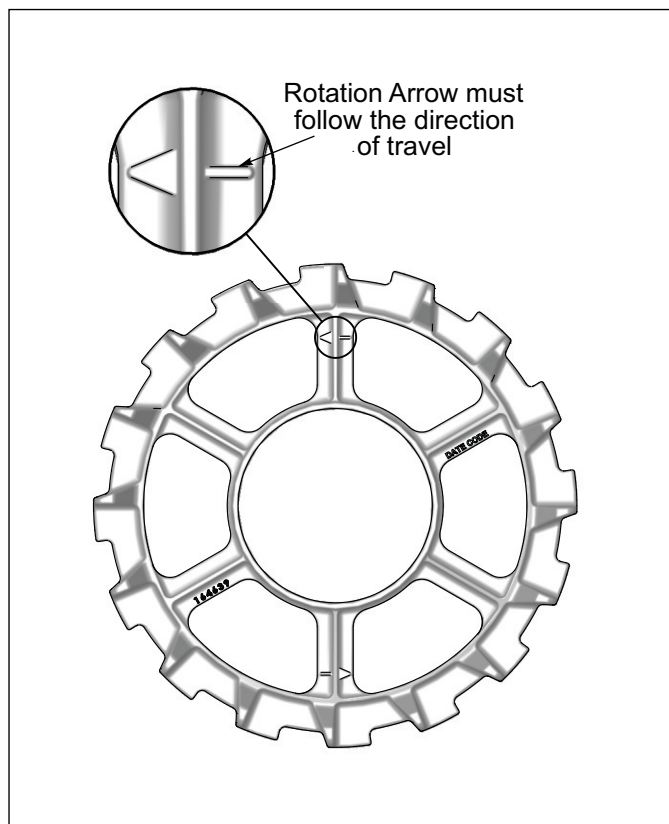

Figure 2-4: Crowfoot Wheel Rotation Arrow
1. Roller Assemblies are pre-assembled from the factory with stub shafts, bearings, shims, and retaining washers. **NOTE:** *Crowfoot Wheel Rotation Arrow must follow the direction of travel.* See **Figure 2-4.**